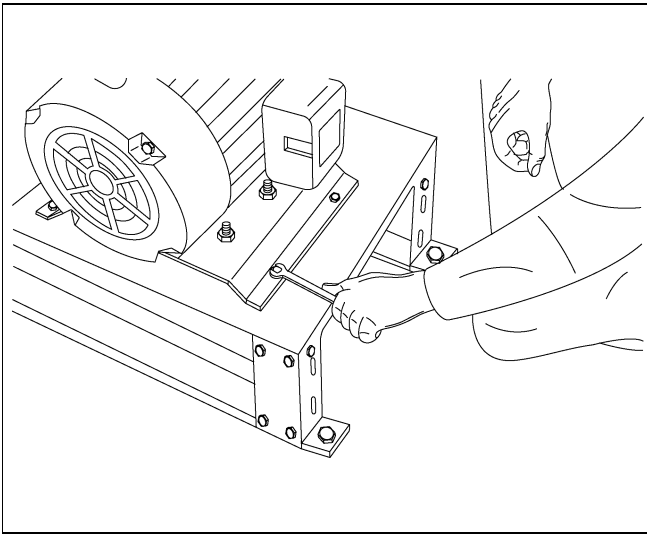

Figure 7F
5. Check the motor nameplate for the correct motor frame size. Remove the hardware shipped in the motor mounting plate. Locate the motor on the mounting plate using the hole pattern, which aligns with the motor base. Bolt the motor securely to the mounting plate with the supplied hardware that was previously removed. Loosen the four (4) 1/2" flange head bolts, which secure the motor mounting plate to the blower base. (See Figure 7F.)